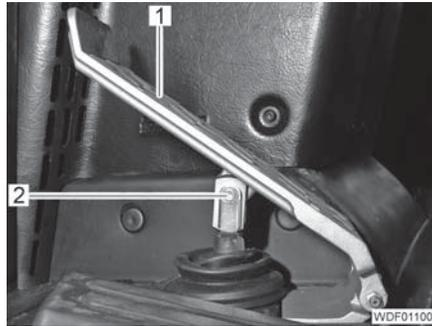

Fig. 389 Brake pedal
- Unlock the pin (Fig. 389,2) and pull it out of the fork end.
- Fold the pedal (Fig. 389,1) upwards.
- Fold the pedal (Fig. 389,1) forwards.
- Push the pin (Fig. 389,2) through the fork end and secure.